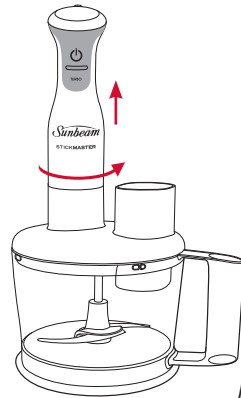

Figure 12
10. To detach the motor body, twist the shaft in an anti clockwise position until the motor body unscrews from the processing bowl. See Figure 12.